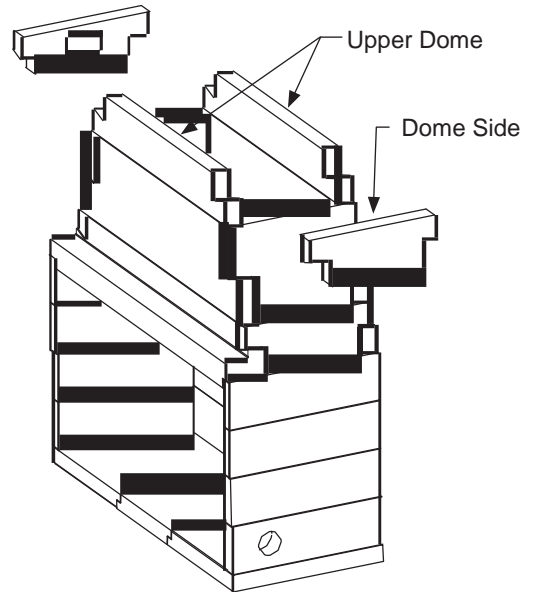

Figure 46 - Attaching Middle Dome
13) **MM63 ONLY:** Position Middle Domes so that outer faces are flush to the lower dome as shown in Figure 46. Carefully install Dome Middle Sides as shown in Figure 46.
NOTE: The chimney hole on the Dome Top is not centered from front to back - it should be offset closest to the rear of the fireplace (see Figure 46).